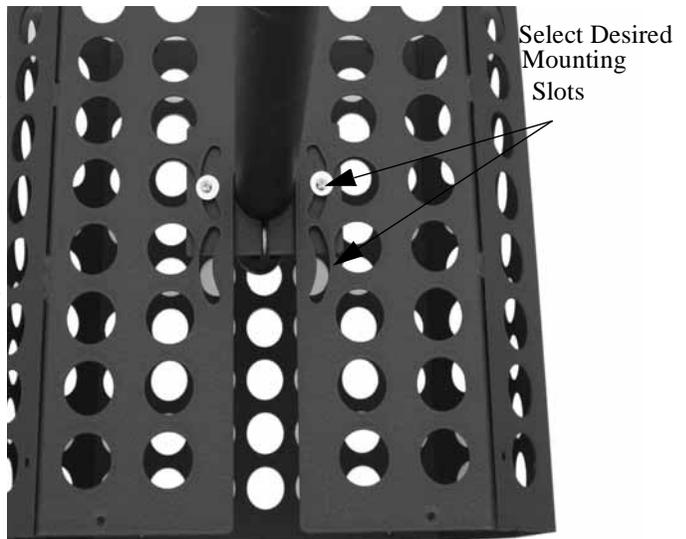

Figure 5. Install Projector Cage Over Locking Collar
5. Slide the projector cage over the clamp assembly and secure using two 1/4-20 x 1/2" button head cap screws (optional security) Phillips head screws and washers provided (see Figure 5).